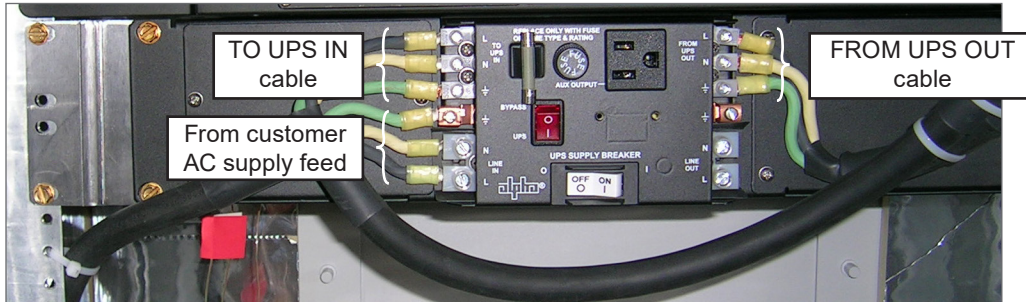

Figure 13 — UATS AC Power Connection Wiring
8. Connect the external batteries to the Battery connector on the FXM UPS—see Figure 13.